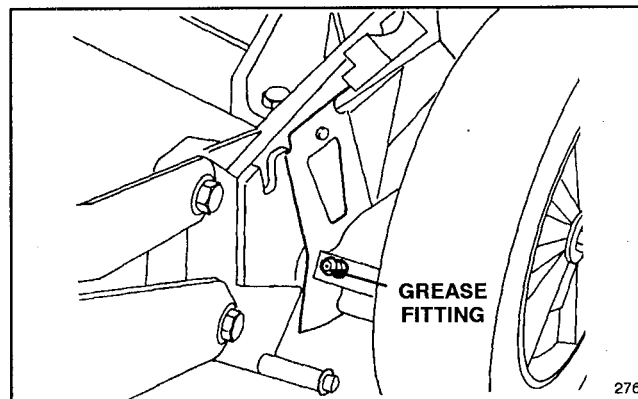

Figure 25
2. **SELF-PROPELLED MODELS ONLY**—Move rear wheel height-of-cut levers to "C" setting. Wipe grease fittings with clean rag (Fig. 25). Install grease gun onto fitting and gently apply 1 or 2 pumps of #2 Multi-Purpose Lithium Base Grease. Excess pressure may damage seals.